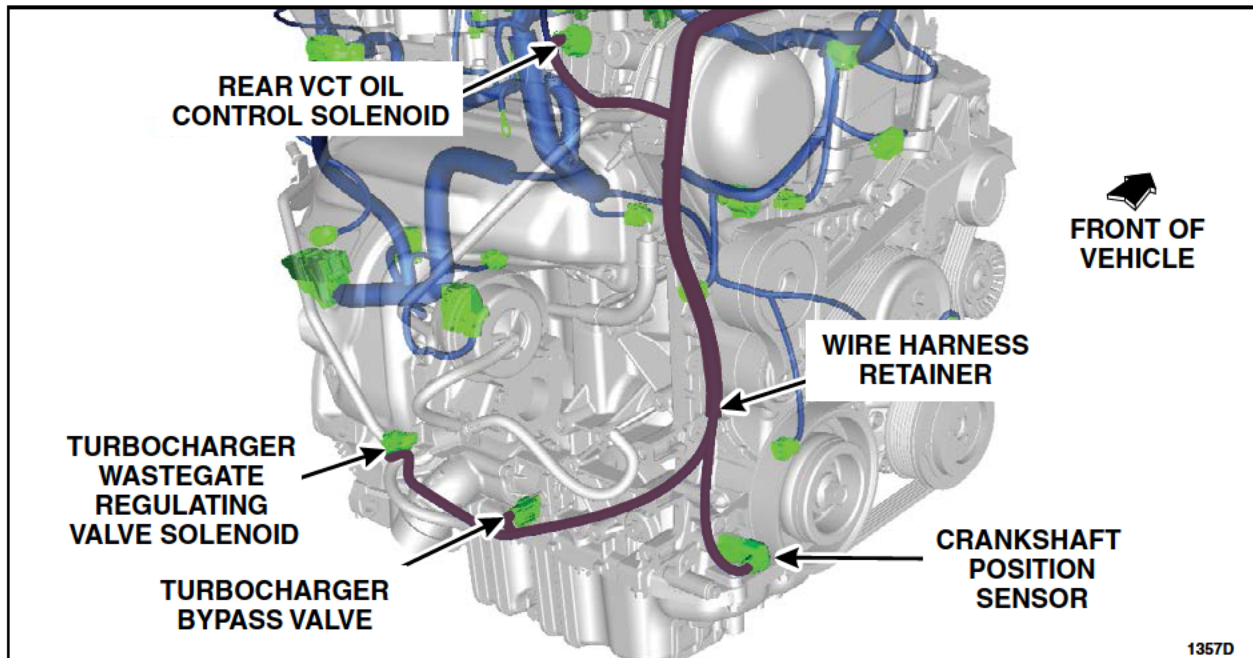

FIGURE F1
NOTE: Figure F1 is for reference only the harness retainers were previously disconnected in Procedure A.
2. Disconnect the rear Variable Camshaft Timing (VCT) oil control solenoid. See Figure F1.
5. Connect the rear VCT oil control solenoid. See Figure F1.
6. Route the wire harness back down to the crankshaft position sensor, turbocharger wastegate regulating valve solenoid, and turbocharger bypass valve. See Figure F1.
7. Attach the wire harness retainer to the front cover. Connect the crankshaft position sensor, turbocharger wastegate regulating valve solenoid, and turbocharger bypass valve electrical connectors. See Figure F1.